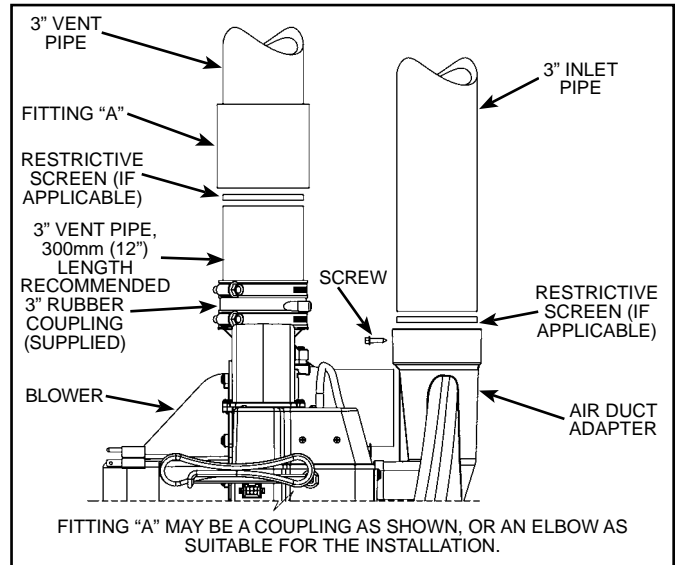

Figure 40.
1. The vent piping connects into the rubber coupling located on the top of the blower assembly. This coupling includes gear clamps to connect the venting to the blower. See Figure 40.
Figure 40 shows heaters having 3" direct connection to the blower.